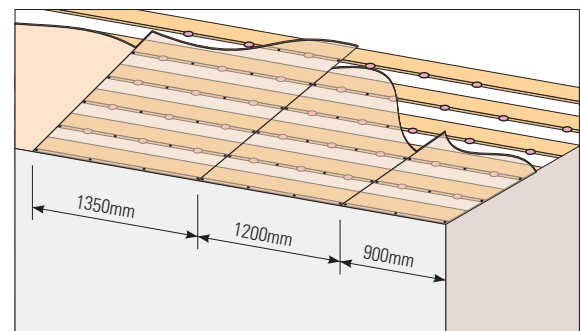

Figure 26 Combination adhesive and screw fixing on ceilings – 1/3 fixing method
- Use Table 6 and Figure 26 for ceiling fastener and adhesive layout.